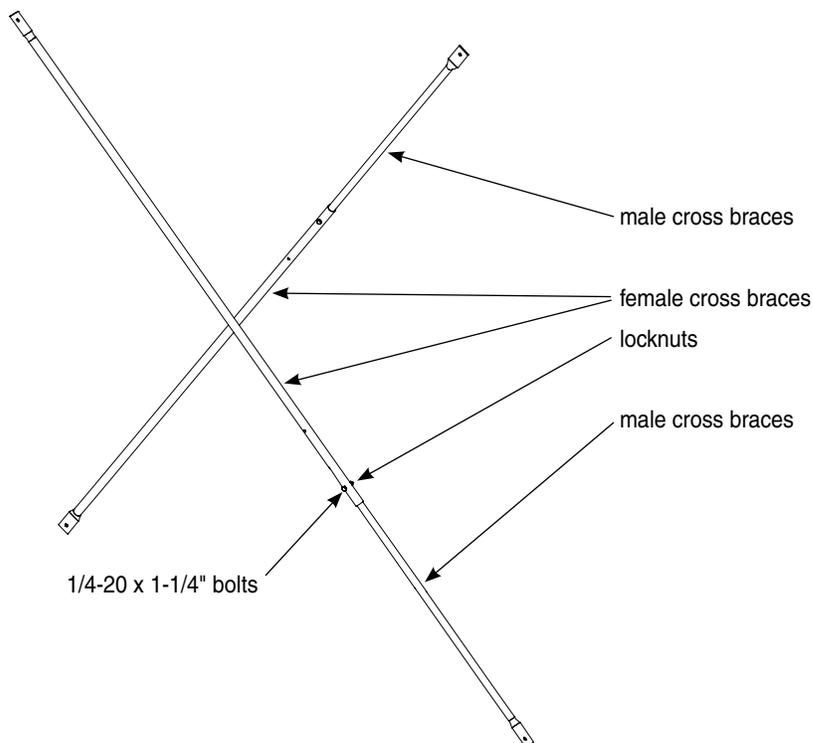

FIGURE 9
15. a. Locate the (8) male cross braces (TP132) and the (8) female cross braces (TP131). Insert the male cross braces into the female cross braces.
- b. Using (8) provided 1/4-20 x 1-1/4" bolts and locknuts, secure the cross braces in the hole location listed in **FIGURE 9**. When assembled together, all eight cross brace assemblies should measure approximately 88-3/4" from end to end.